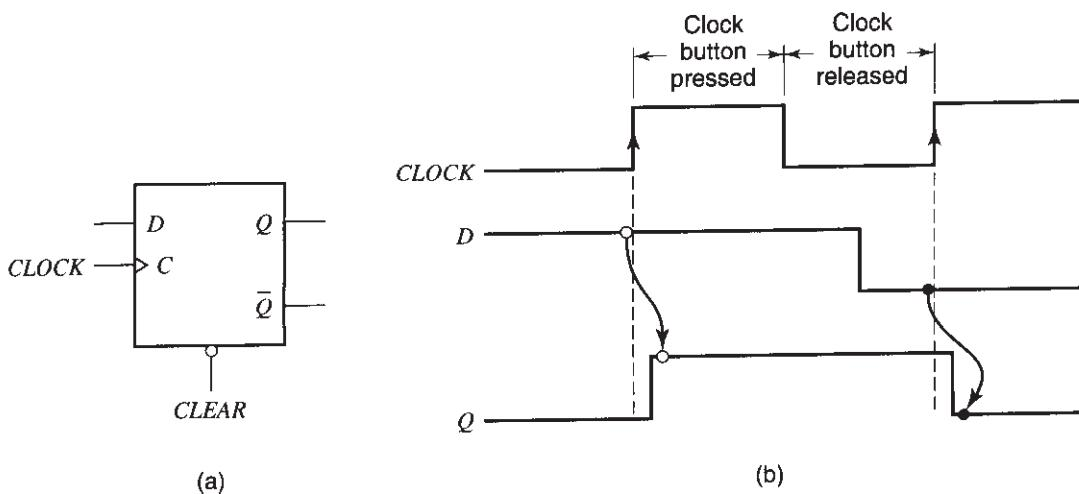
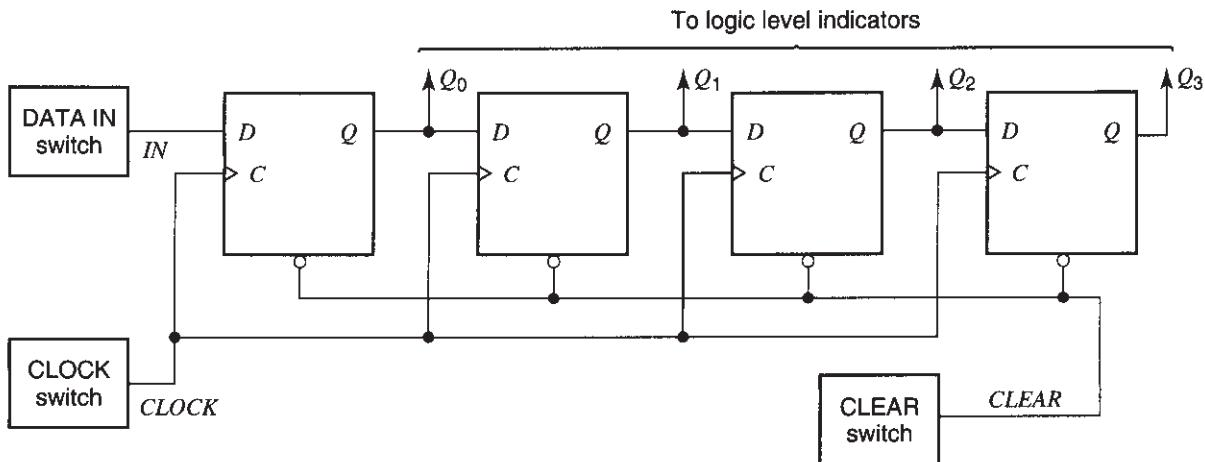

Fig. 2
Fig. 7
A *positive-edge-triggered D flip-flop* is shown in Fig. 2(a). Assume first that the *CLEAR* signal is high. Then the flip-flop has the following property: *Data at the input, D, is transferred to the output, Q, when the clock signal makes the transition from low to high.* That is, if the input D is steady at a logic 1 when the clock goes to high, the input logic 1 is transferred to the output Q; if, instead, the input is 0 when the clock goes to high, this 0 is transferred to the output. The data is held at the output until the next low-to-high clock transition. These properties are illustrated in Fig. 2(b). In this figure, we also indicate the fact that the new output appears after a very small delay (typically in the tens of ns). Since the input data are transferred to the output when the clock goes from low to high, this is called a positive-edge-triggered D flip-flop. For correct operation of this flip-flop, the data at D must be steady before the clock low-to-high transition takes place, at least for the minimum time specified by the flip-flop manufacturer (e.g., for 20 ns).
10. Consider the four-stage shift register in Fig. 7, but do not build it yet. Assume that all outputs are cleared and then a 1 is placed at the input IN . Assume that the clock button is pressed and released once. What will the values of Q_0 , Q_1 , Q_2 , and Q_3 become? [Hint: When the clock goes from low to high, each flip-flop transfers to its Q the value that existed at its D just before the clock transition; see Fig. 2(b).]
11. Now build the circuit of Fig. 7. All four D flip-flops needed can be found inside the same 74LS175 chip, the pin assignment for which was given in Fig. 4. It will help if, before starting to build the circuit, you mark Fig. 7 with the appropriate pin numbers from Fig. 4. Be sure to connect the ground and supply pins. If no logic level indicators are provided on your breadboard, use four indicators of the type shown in Fig. 5.
19. Lower the frequency of the signal to 1 Hz. *Disconnect the clock switch circuit from the input of the shift register of Fig. 7*, and connect instead your function generator output to it, as shown in Fig. 8. The LED at the function generator output should be lighting up 1 time per second.